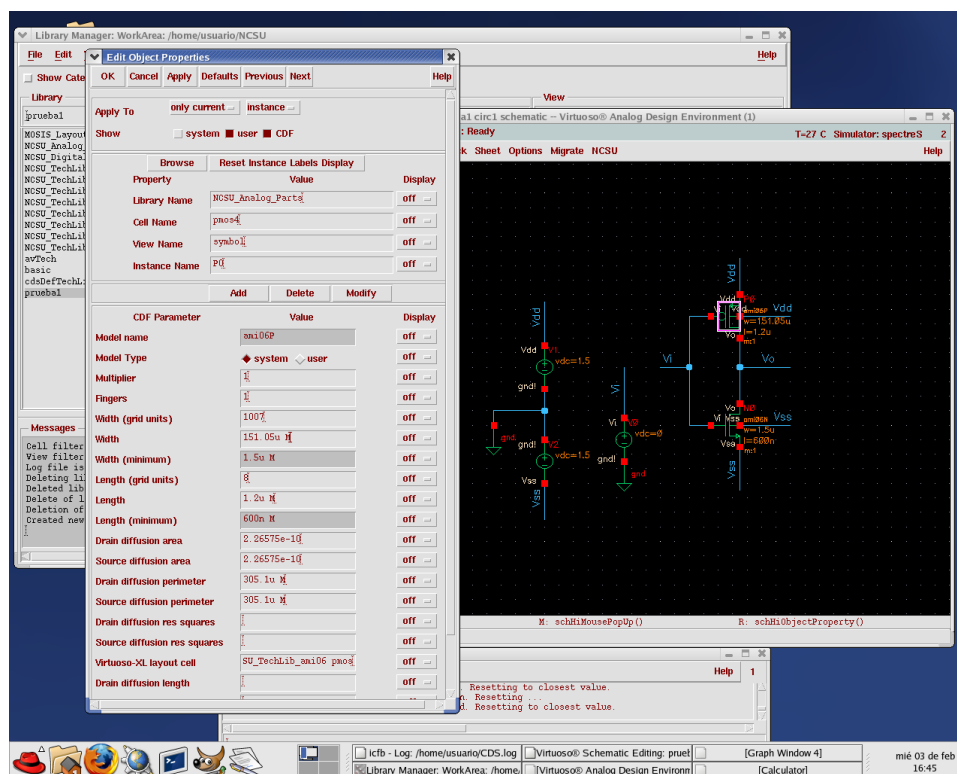

Figure 8. Property window of the transistor PMOS in the schematic.
- **Set instance properties:** you can modify at any time the properties of a certain component instance (resistance value, transistor dimensions, etc), e.g. by selecting the instance (click on it) and then clicking on the **Properties** icon, see Fig. 8. You can also change a group of instances of the same component simultaneously, by first selecting this group, then clicking in Properties and modifying the parameters, selecting **Apply to > All selected**. Most of the commands in Composer will start a mode (the default mode is selection), and as long as you do not choose a new mode (by clicking an icon, pressing a short key or selecting a menu item) you will remain in that mode. To quit from any mode and return to the default selection mode, the "Esc" key can be used.
a) **Non-Hierarchical schematic.** Here, all the circuit is introduced in the schematic at the same (transistor) level, including the required sources. This is only viable for small designs, as depicted in Fig. 8.